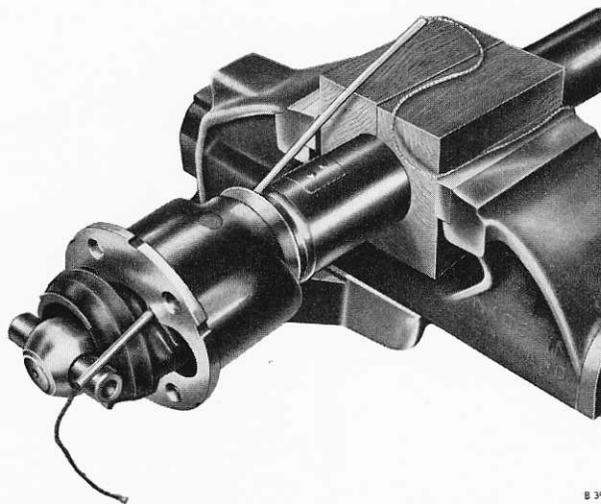

Fig. F8 Method of passing the cord through the tube (first position)
- (vi) Select a small tube of suitable diameter and gauge, then pass it between the sealing boot and the joint body. Pass a length of cord through the tube as shown in Figure F8 then remove the tube.